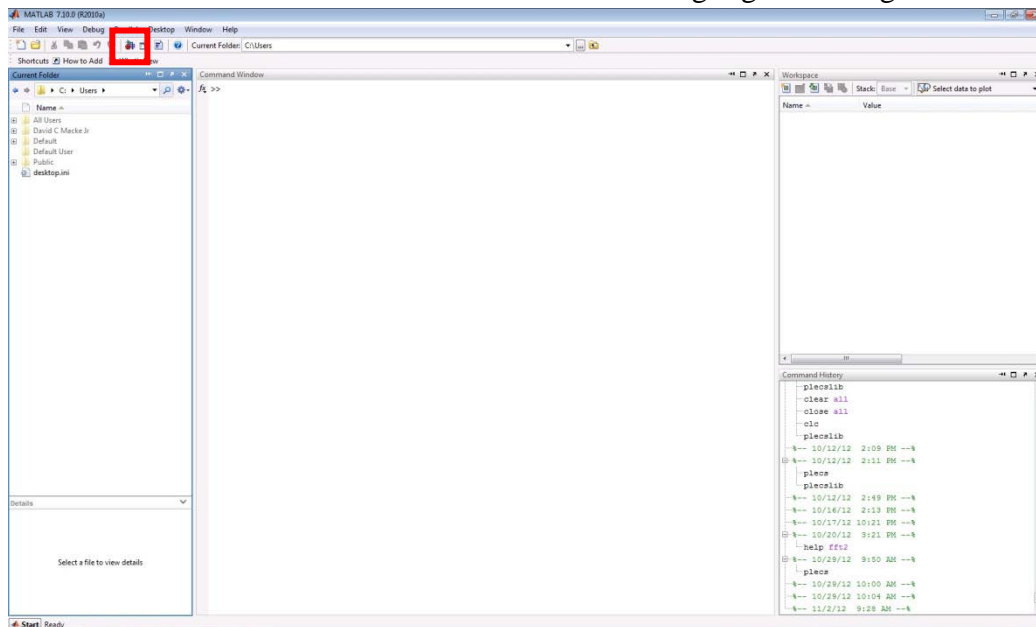

Figure 1:MATLAB Start Page
2. Open a new Simulink window by clicking on the Simulink button. The simulink button is in the top left of the MATLAB window. The Simulink icon is highlighted in Figure 1 shown below.